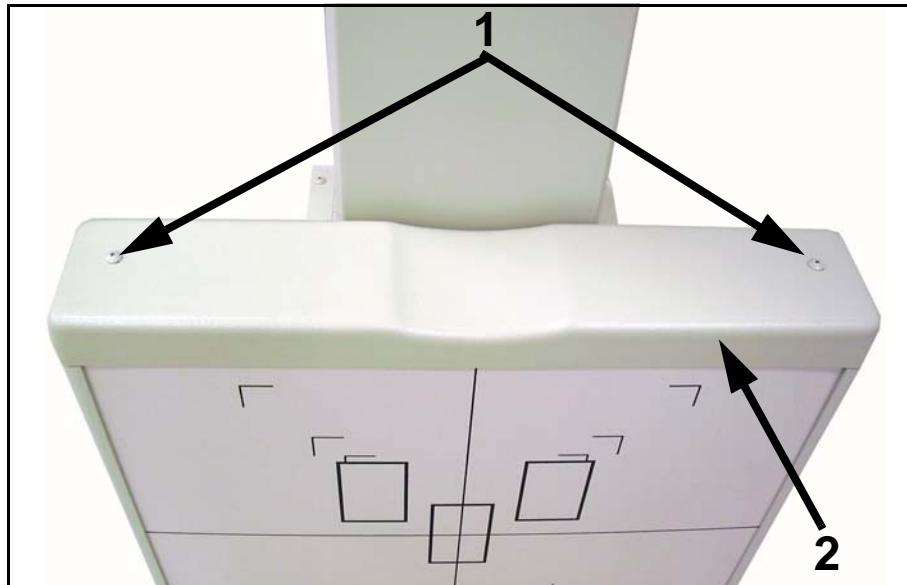

Figure 6-19. Top Cover Screws
- 3 Unscrew two top cover screws (1 in Figure 6-19) and remove top cover (2).